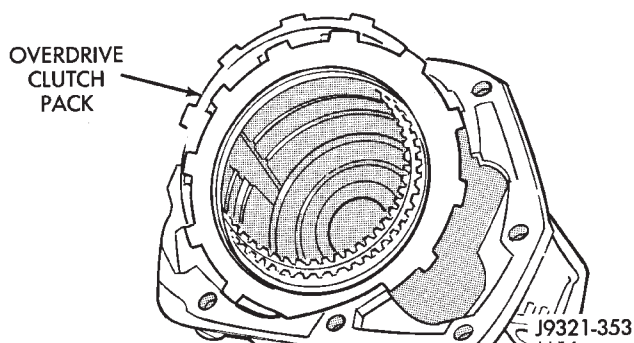

Fig. 9 Overdrive Clutch Pack Removal
- (2) Remove overdrive clutch pack (Fig. 9).